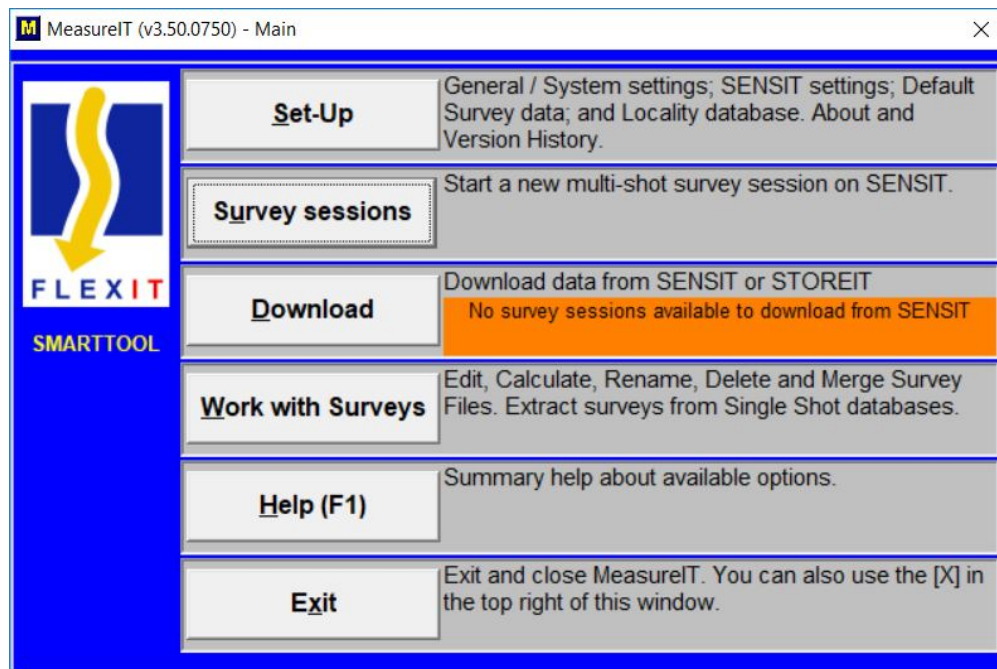
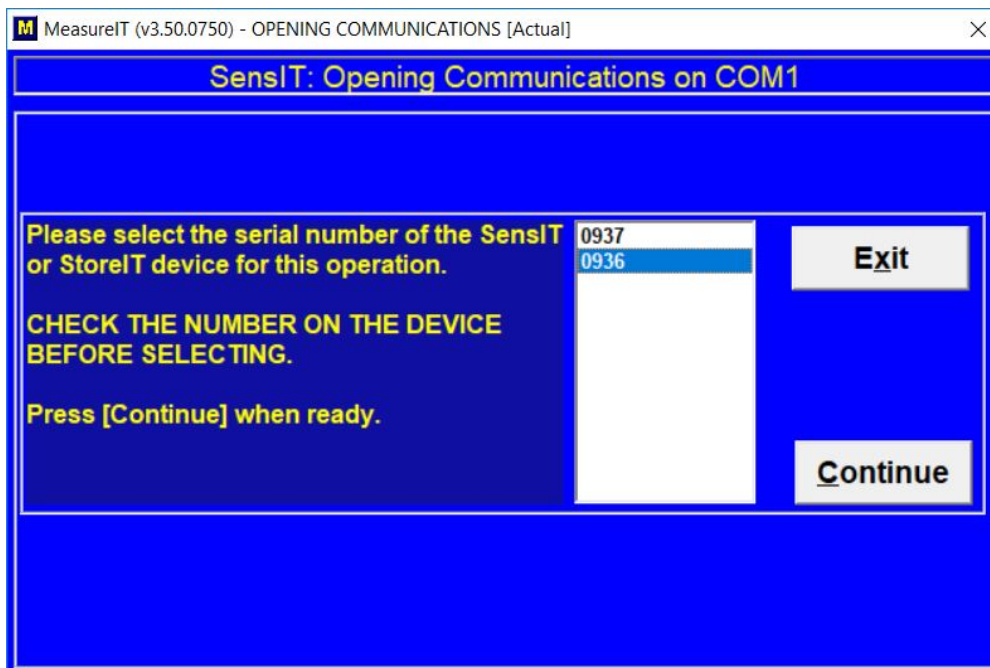

Figure 1
Figure 5 Communications initialization window
2. Open MeasureIT, press **Set-up (Figure 1)** and then **Default Survey Data (Figure 2)** buttons to edit the Magnetic Field and Dip values for the magnetic Integrity Check (MagIC) and enter the default survey data.
2. From the MeasureIT main menu (Figure 1), press the **Survey Sessions** button. Select your tool's serial number (printed on the tool casing) from the list and hit **Continue** (Figure 5).